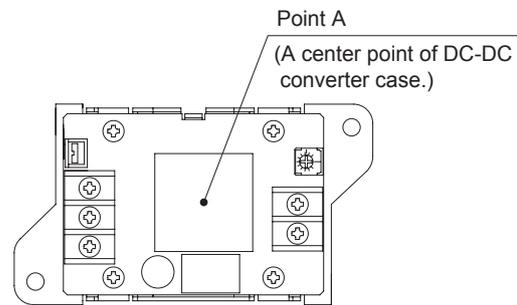

Fig.5.1 STMGFS15/STMGF15 Temperature Measuring Point
■ In case of forced air cooling, please have sufficient ventilation to keep the temperature of point A in Fig.5.1 at 105°C or below.